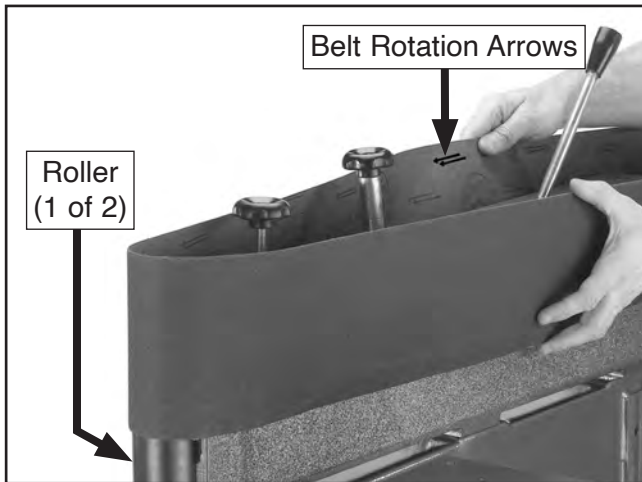

Figure 36. Installing sanding belt on rollers.
- Remove old sanding belt and replace with new one, being sure arrows on inside of belt point in counterclockwise direction, as shown in **Figure 36**.